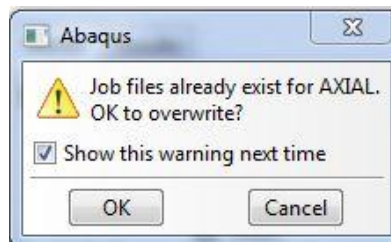

Figure 36. Abaqus Warning
- If you see a warning (Figure 36) :